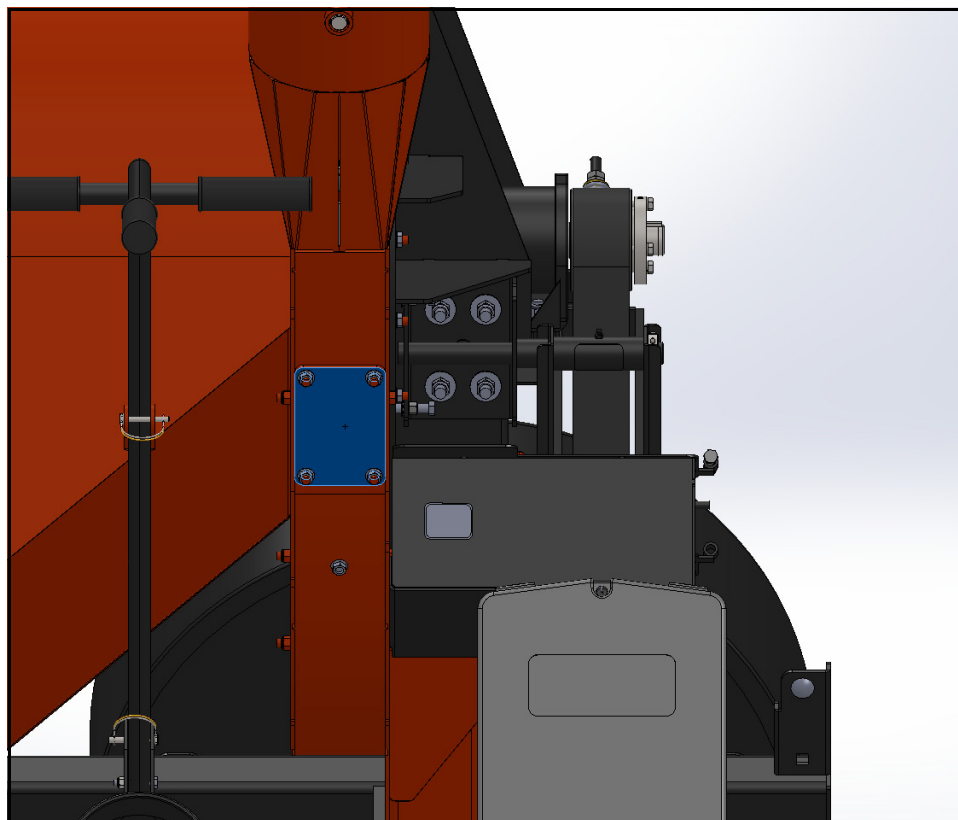

Figure 5.15 Rotor & Wear Wrap Inspection Window Plate
4. Remove the nuts holding the inspection window plate (see Figure 5.15).